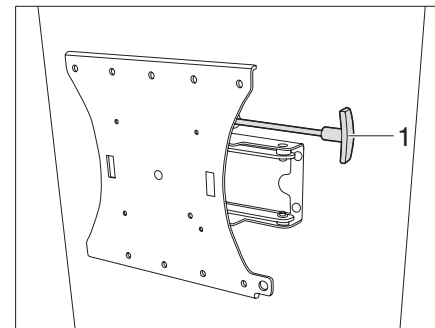

Fig. 84 Bracket with jointed arm (Variant 2)
- Pull the lever (Fig. 84,1) to release the flat screen from the latch.
- Push the lever (Fig. 84,1) back in to lock.